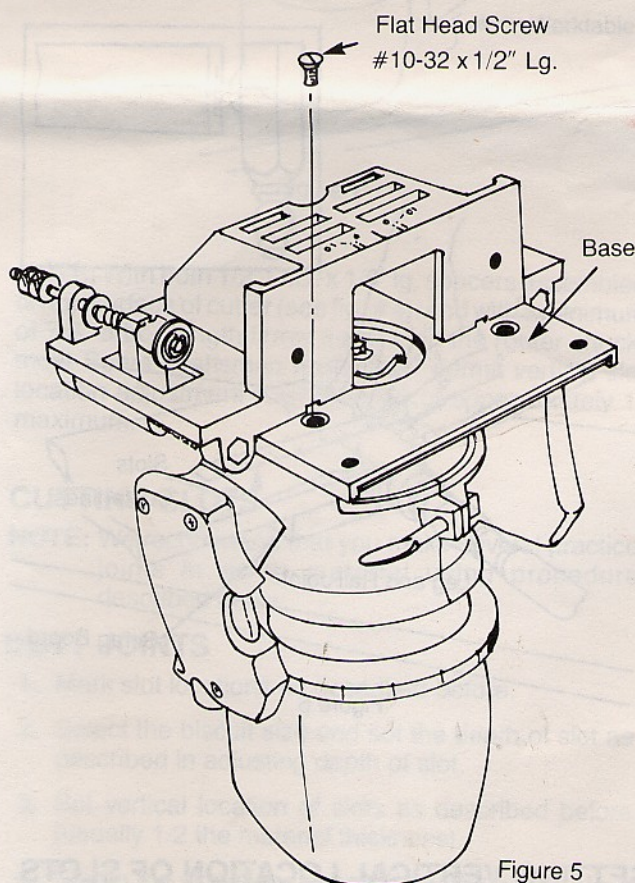

Figure 5
2. By using three #10-32 x 1/2" lg. flat hd. screws (supplied), assemble router to the base as shown in fig. 5 (it will be helpful if you orient the router such that the on-off switch is in your right hand during operation).